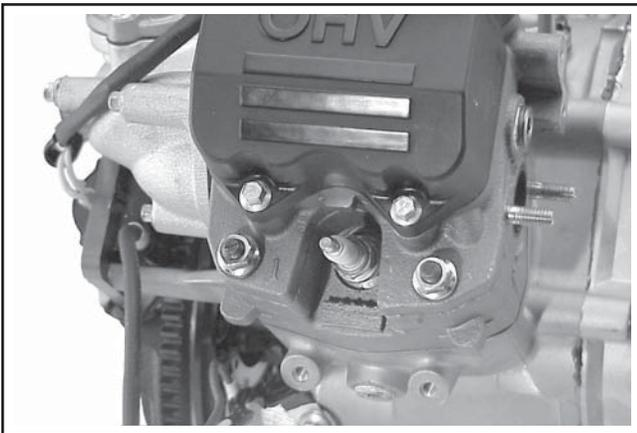

Figure 11-75. Installing Spark Plug.
3. Install the plugs and torque to 24.4-29.8 N·m (18-22 ft. lb.). See Figure 11-75.